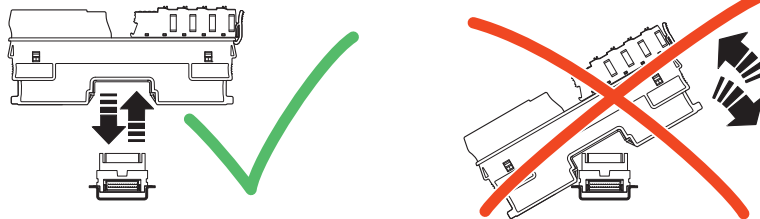

Figure 4-1 Placing the module **vertically**
- Place the modules onto the DIN rail **vertically** (see Figure 4-1).